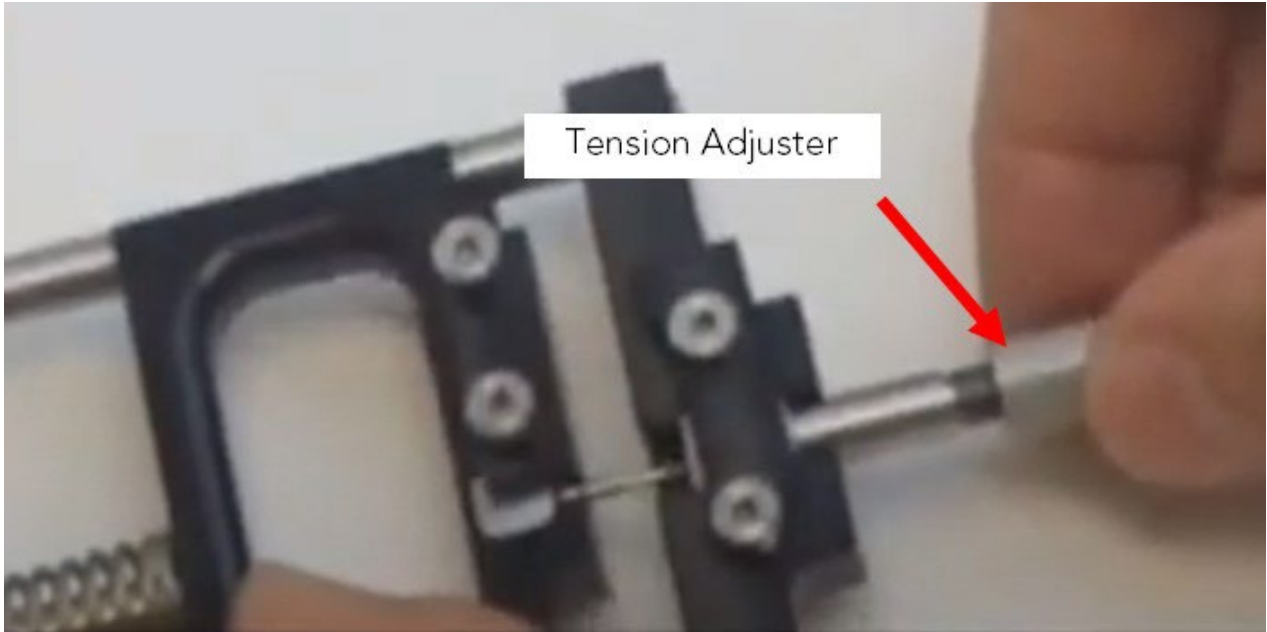

Figure 10 Tension Adjustment
- 4) Adjust Tension as needed See Figure 10